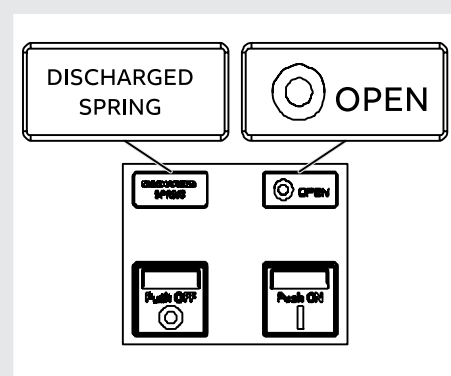

Figure 35
1. Circuit-breaker open with springs discharged (see Figure 35).